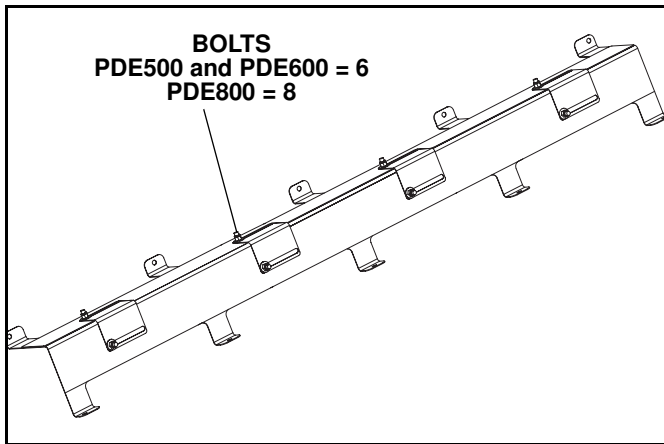
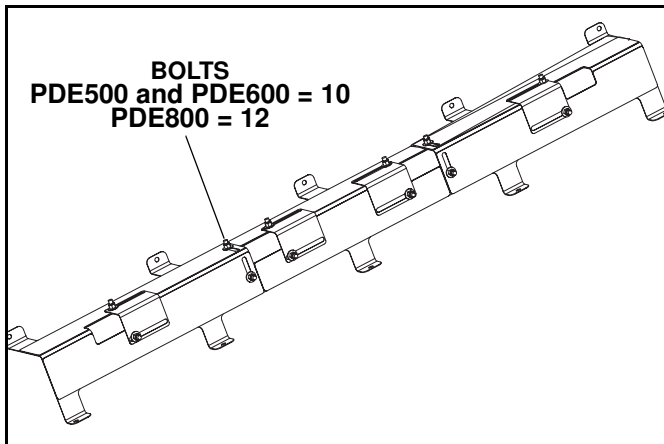

Figure 1-2 (One Piece Design)
Figure 1-3 (Sectional Design)
1. Determine which design your spreader has. (See *Figure 1-2 and Figure 1-3.*)